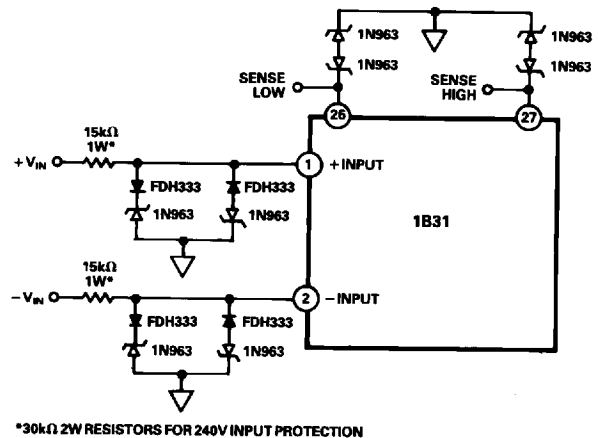

Figure 7. 115V Input Protection for 1B31
**Input Protection:** The differential inputs of the 1B31 can be protected from accidental shorts to power line voltages (115V rms) by the circuit shown in Figure 7. The back-to-back diodes clamp the inputs to a maximum of ±12.5V and were selected for low leakage current. The 15kΩ resistors in series with the inputs will degrade the noise performance of the 1B31 to 4.2μV p-p in a bandwidth of 0.1Hz to 1kHz. For six-wire load cells in harsh environments the additional protection for the sense inputs shown in Figure 7 is recommended.